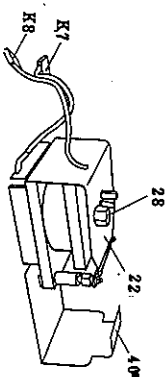

Fig. 42
Set (22) UPPER SHIELD and (40) LOWER SHIELD as shown in Fig. 42 and secure them with screws.